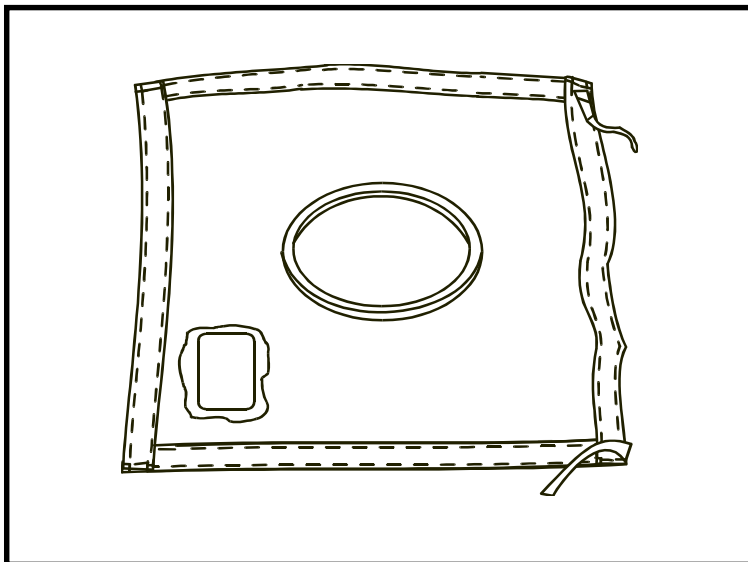

*Figure 10-3. Using sealer to repair a small hole*
a. Repairs for Small Holes and Tears. A layer of silicone sealer is used to repair a hole or tear that measures 2 inches or less across. To make this repair (Figure 10-3)--
- (1) Obtain cleaning materials, a dry rag, a can of silicone sealer (MIL-A-46106), and a paddle.
- (2) Clean and dry the damaged area thoroughly.
- (3) Spread a 1/16-inch-thick layer of sealer on both sides of the shield. Cover the hole or tear and at least 1/2 inch on each side of the damage. Smooth out the layer as evenly as possible.
- (4) Brace the shield so that the sealer does not touch anything while it is wet.
- (5) Let the sealer dry for 4 hours on a sunny day with low humidity. Let it dry for 6 hours on a humid day. Do not move the tent while the sealer is drying.